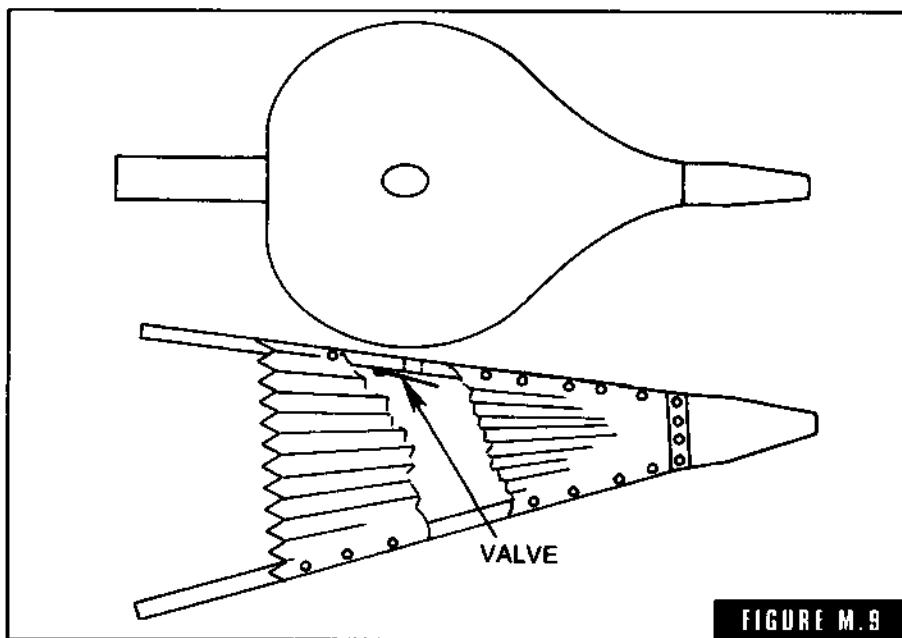

FIGURE M.9
**molder's bellows** There are two types of bellows—one a short snout or bench bellow and one a long snout floor bellows (Fig. M-9). The theory is that a molder can wreck a bench mold blowing it out with a long snout floor bellows by hitting the sand with the snout. This theory is true due to the different stance and angle when blowing a mold bench high or on the ground. With care one only needs a 9- or 10-inch floor bellow to blow out cope and drag molds, sprue hole, and gates.